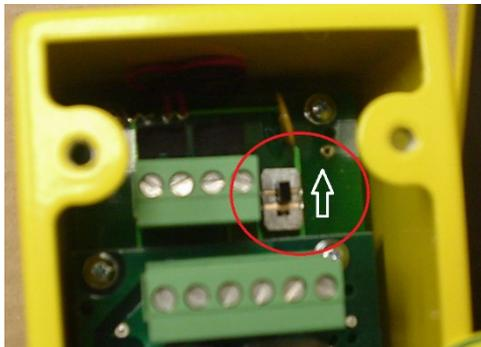

Figure 6
7) Set the EDM Slide Switch to 2-CH EDM position. Refer to figure 6.